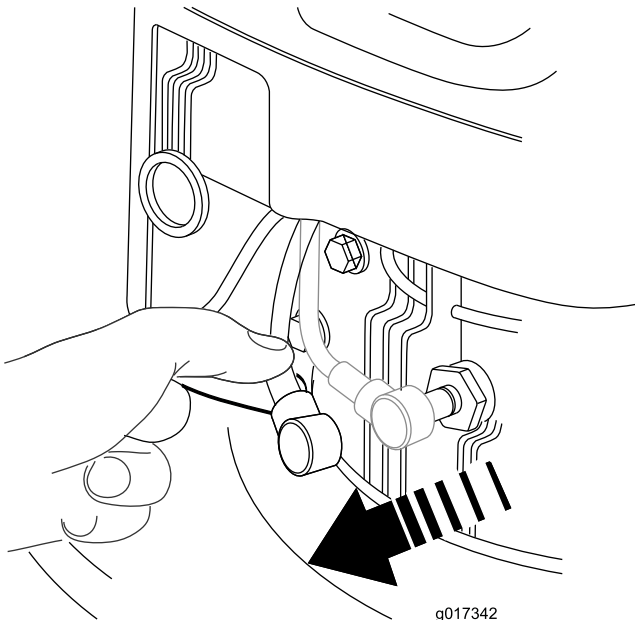

Figure 19
2. Disconnect the spark-plug wire from the spark plug (Figure 19) before performing any maintenance procedure.
2. Disconnect the wire from the spark plug (Figure 19).